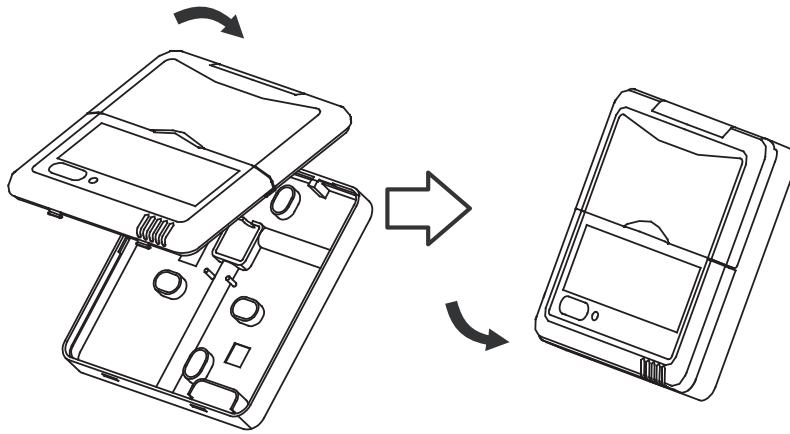

Fig 17-11
- After adjusting the upper case and then buckle the upper case; avoid clamping the wiring during installation. (Fig 17-11)